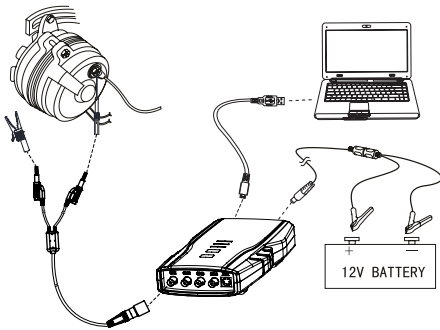

Fig. 56: Equipment connection
- Connect KT720 to the generator on the vehicle, as shown in Fig.56.